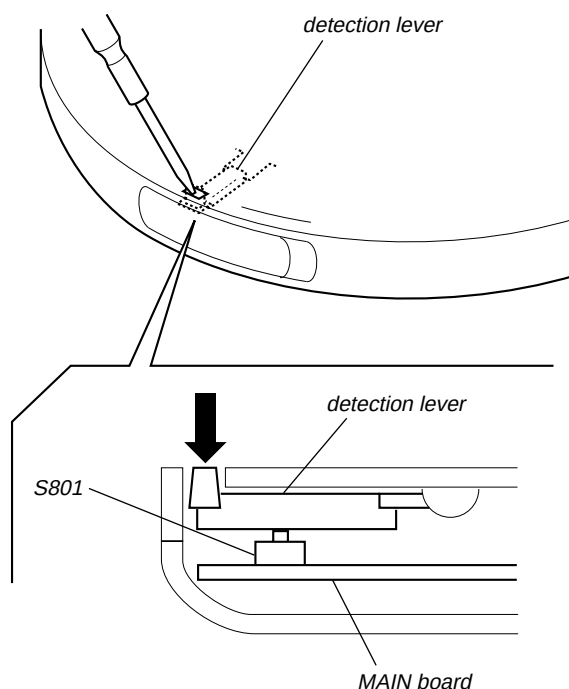

Fig. 1 Method to push the S804
2. With a disc not set, turn on the S801 with a screwdriver having a thin tip as shown in Fig.1.